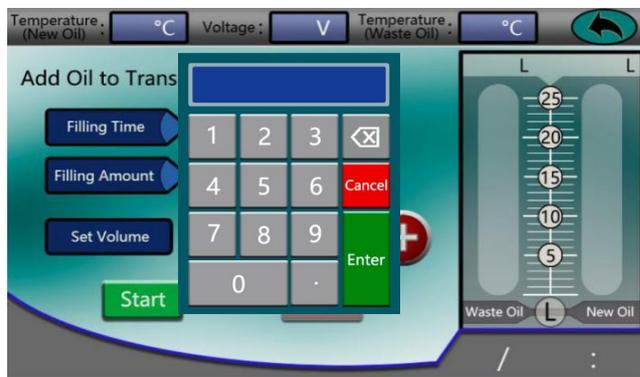

Fig.24
- 7.3 Click "+" or "-" to set the exchange amount. Or tap edit box to pop up the number keyboard, and enter the number (Fig.24). Then click 'Start' to run.